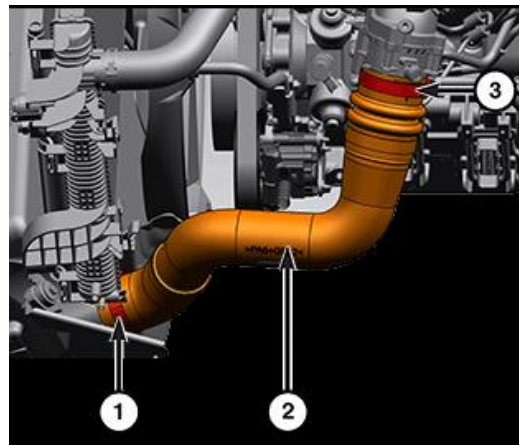

Figure 5 – Charge Air Cooler Hose
13. Loosen the clamp (1) and disconnect the left Charge Air Cooler (CAC) hose (2) from the cooler (Figure 5).